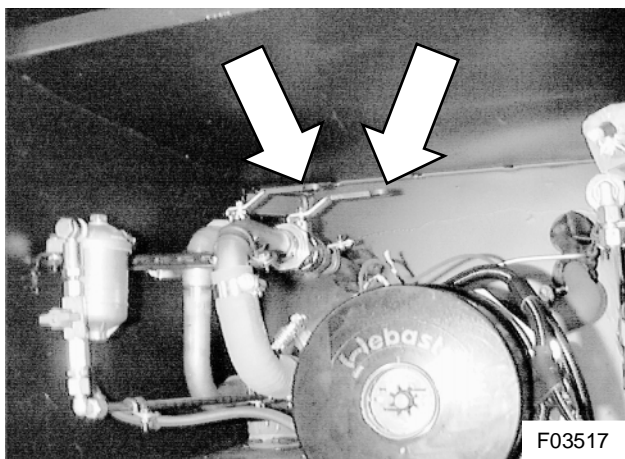
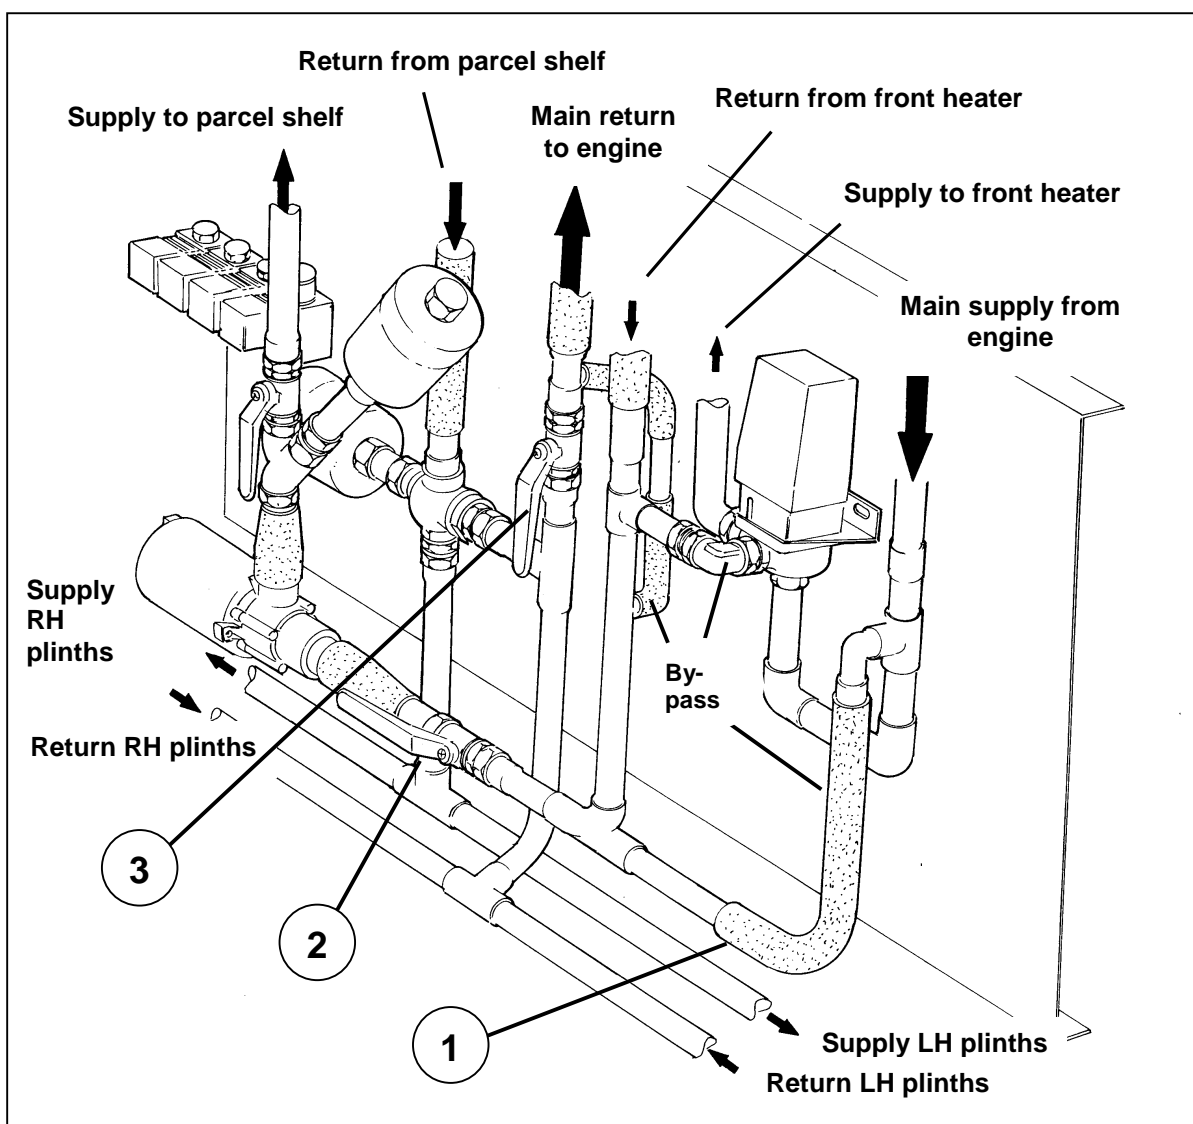

Figure 1: Location of gate valves in the T2145 combustion heater compartment (valves in the closed position)
Figure 2: Heating system valve and pump panel. The engine main supply and return valves are in the open position.
- T2145: Both valves are located in the combustion heater compartment on the left-hand side of the coach (see Figure 1).
- 5) At the back of the luggage compartment, open the access door to the heating system valve and pump panel. Close the ball valves in the engine main supply (2, Figure 2) and return lines (3, Figure 2).
- 7) Undo the lower hose clamp of the engine main supply hose beneath the water valve (1, Figure 2). Carefully remove the hose from its fitting and allow coolant to drain.
- 1) With the lower hose of the engine main supply line refitted, and the hose clamp properly torqued, open the ball valves in the engine main supply (2, Figure 2) and return lines (3, Figure 2). Open the gate valves (see Figure 1).